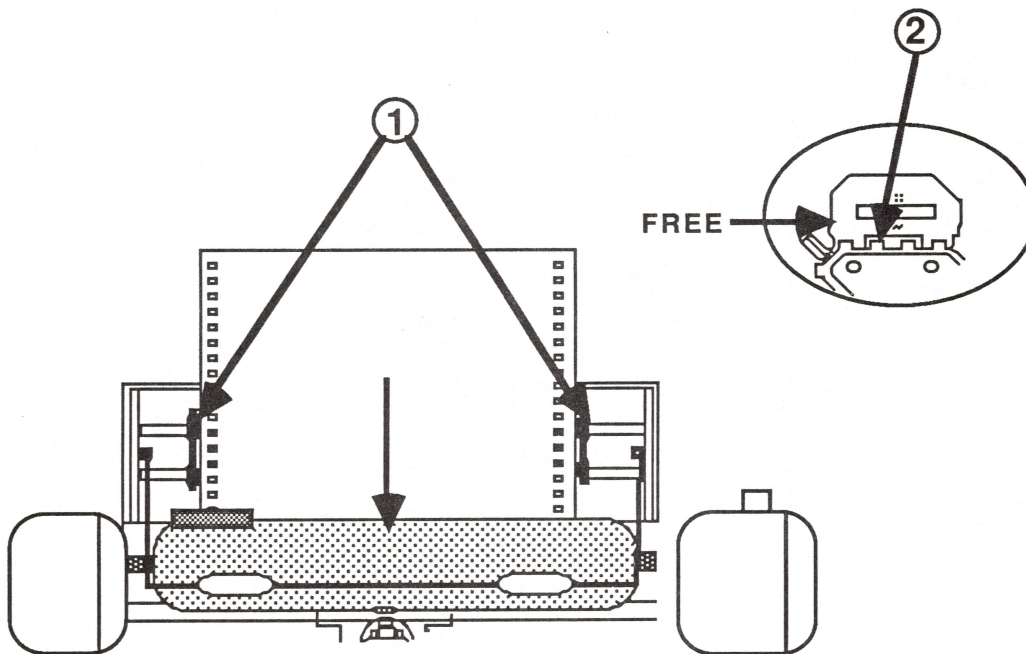

FIGURE 2
4. Lift up the clamps on both forms tractors (see Figure 2, #1).